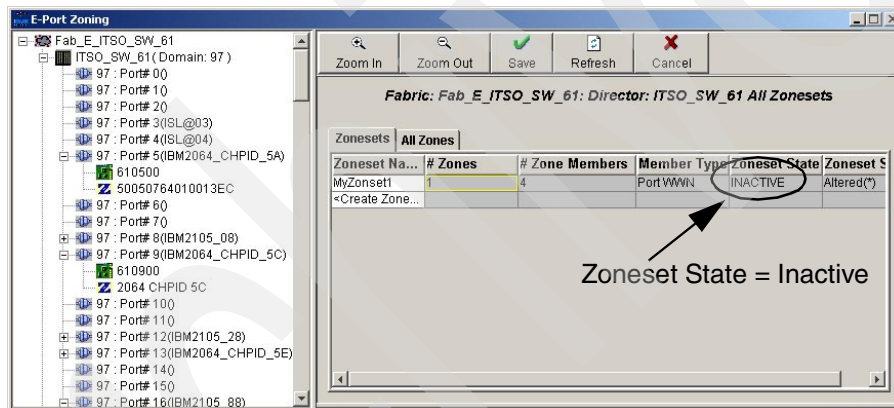

Figure 5-25 ZoneSet member display
- If a zone was added successfully to the Zoneset, check the # Zones and # Zone Members fields for the correct number of zones and zone members (see Figure 5-25).